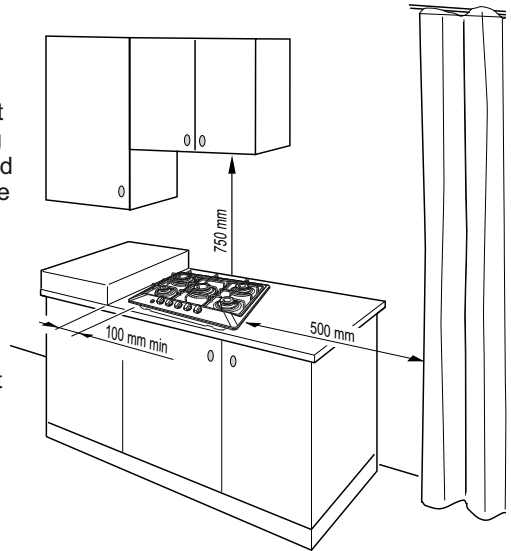

Fig. 3.1
- There must be a distance of at least 750mm between the hob and any wall cupboard or extractor hood that is positioned above (See Figure 3.1).